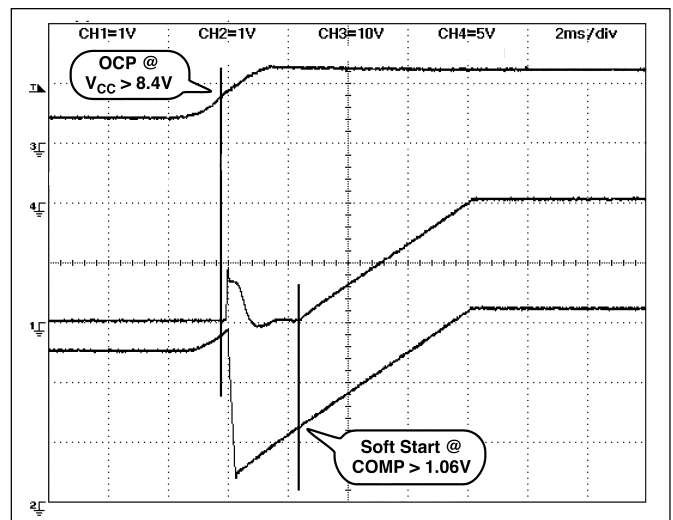

Figure 10: Startup with COMP pre-charged to 2V (2ms/div).
If the voltage across the Current Sense resistor generates a voltage difference between the VFB and VOUT pins that exceeds the OVC Comparator Offset Voltage (86mV typical), the Fault latch is set. This causes the COMP pin to be quickly discharged, turning off GATE(H) and the upper NFET since the voltage on the COMP pin is now less than the 1.1V PWM comparator offset. The Fault latch is reset when the voltage on the COMP decreases below the Discharge threshold voltage (0.25V typical). The COMP capacitor will again begin to charge, and when it exceeds the 1.1V PWM comparator offset, the regulator output will Soft Start normally (see Figure 10).